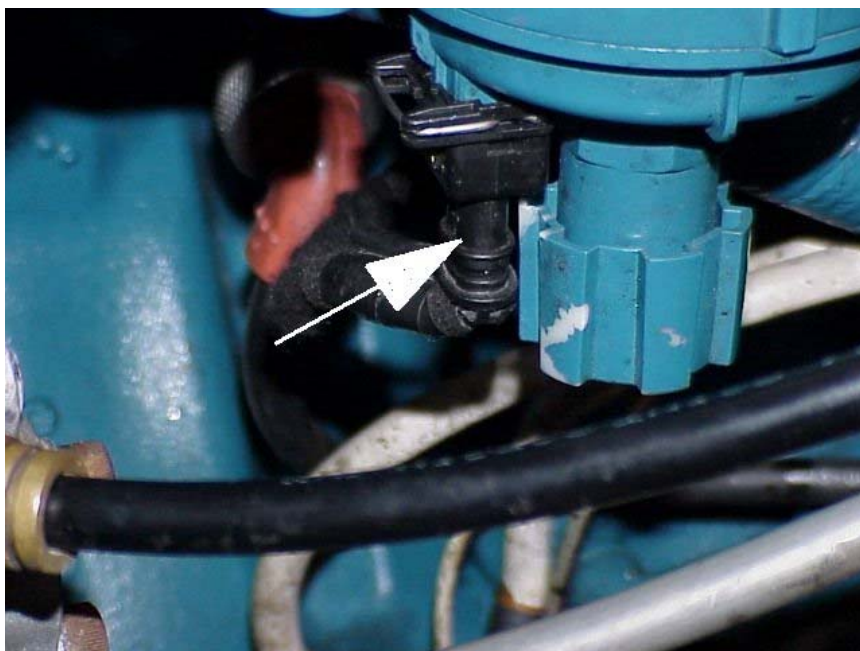

Figure 1 Heater Fuel/ Water Separator Connector (Arrow)
2. Disconnect the harness connector from the heater fuel/ water separator (Figure 1).